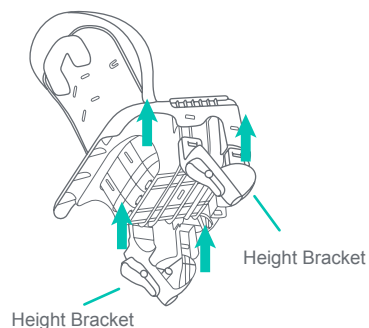
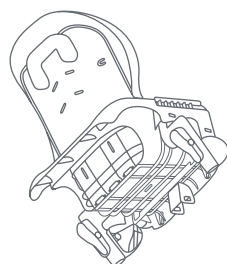

Fig. 3a
Fig. 3b
- 3) • Slide the left and right sides' Height Bracket onto the Seat Base (Fig. 3a). Lock the brackets in place (Fig. 3b).